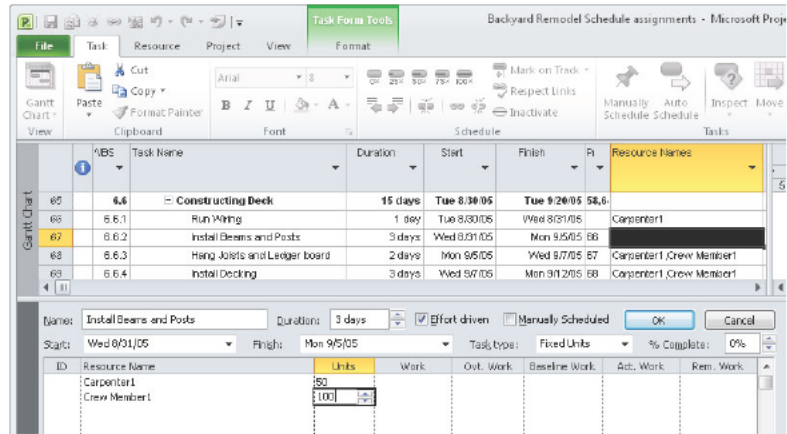

FIGURE 6-9 You can specify resources' units or the number of hours they work.
3. If you want to assign a resource at a specific unit percentage, click the Units cell in the same row and type the percentage, such as 50 percent for Carpenter1 in Figure 6-9.